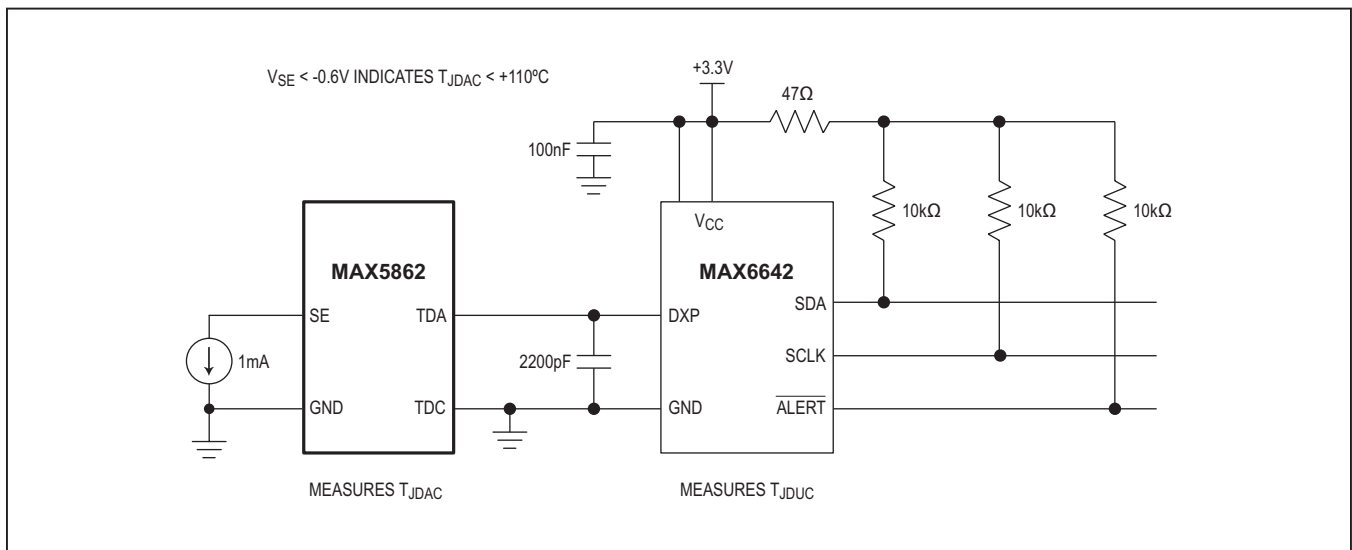

Figure 22. Die Temperature Monitoring Circuits
**The user should conduct a thorough thermal analysis when designing with the MAX5862 (use of a heatsink may be required).** Maintain the proper die temperature ( $< 110^{\circ}\text{C}$ ) to avoid thermal damage. The MAX5862 has a built-in thermal diode junction that interfaces to an external dual current temperature sensor, such as the MAX6642, for measuring the  $T_{JDUC}$ . This sensor allows the user to monitor the die temperature of the MAX5862 and it can also output an over temperature warning signal. The interface circuit is shown in Figure 22. For board layout recommendations, please refer to the MAX6642 data sheet. Refer to the Application Note 5674: *MAX5860/ MAX5862 Thermal Model Considerations*.